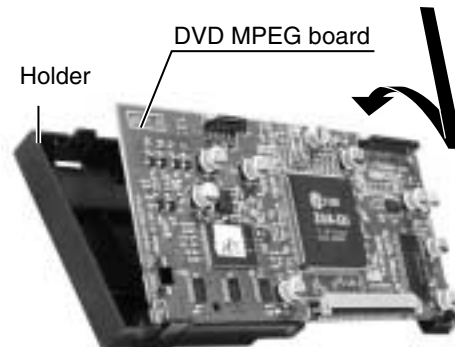

Fig.8
■ When inserting DVD MPEG board in holder. (see fig.8)